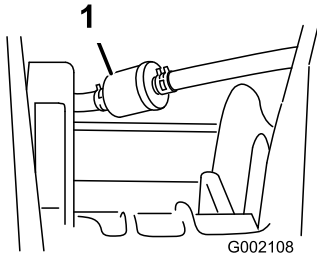

Figure 37
- Remove the clamps securing the fuel filter to the fuel lines (Figure 37).